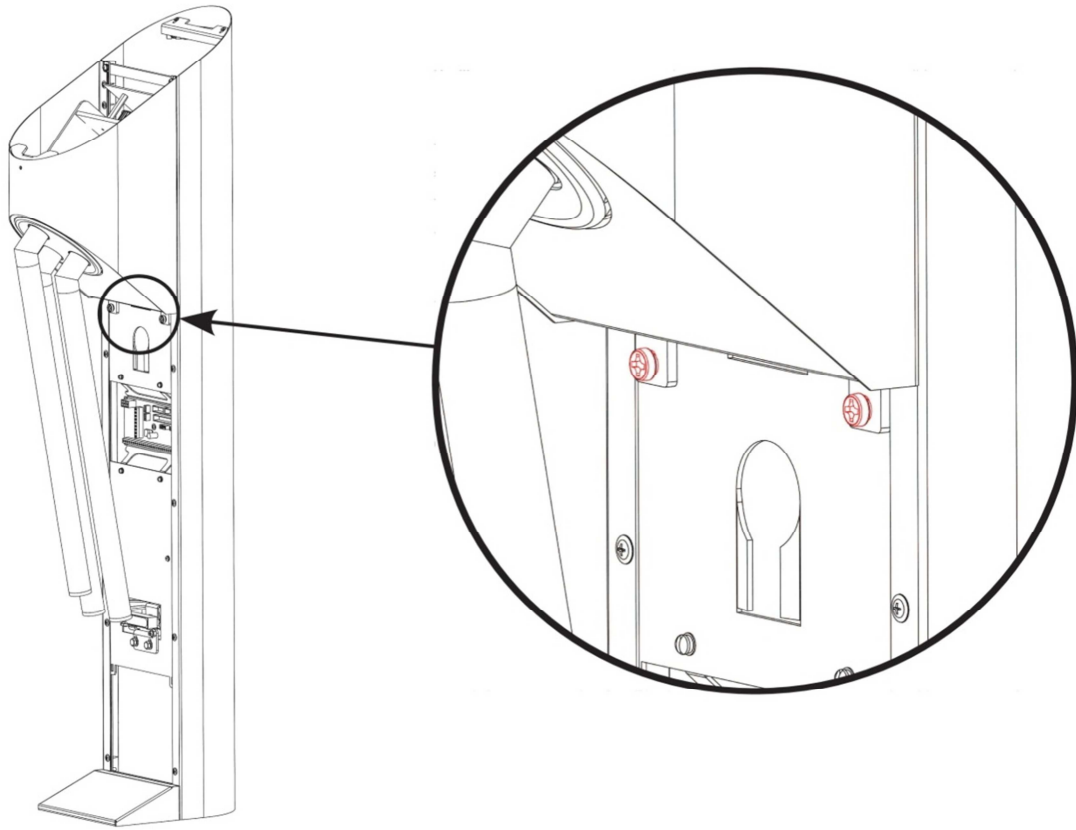

Fig. 8
- Remove two M6 DIN7985 screws (Fig. 8);